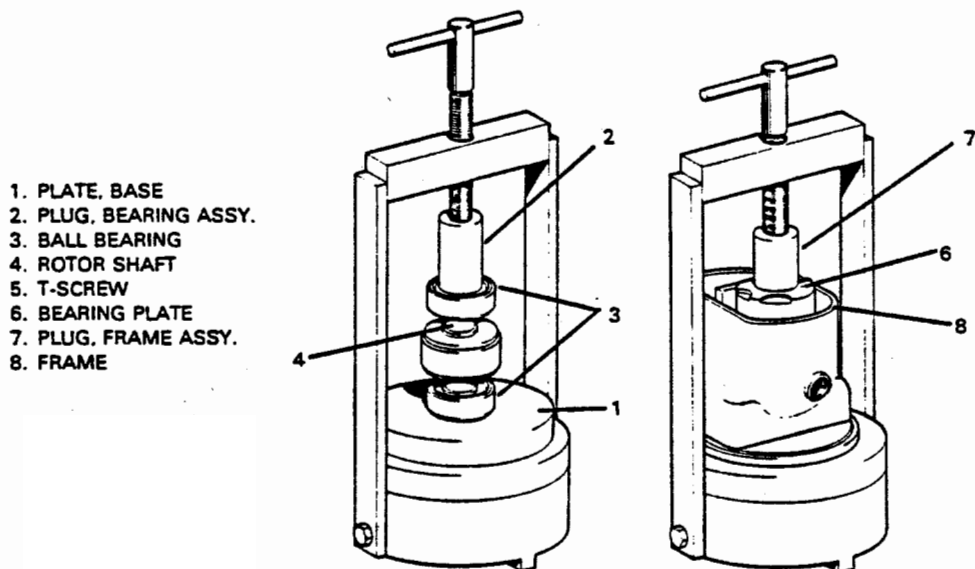

Figure 8-11. Installation of Bearings and Bearing Plate
- f. Insert the base plate (T-117) and the adapter plate bushing (T-119) into the base of the T-100 assembly and timing tool. Assemble both ball bearings on the rotor shaft, making sure the grease shield of each bearing is toward the magnet. Place the rotor shaft into the base plate, threaded end down. (See Figure 8-11.) Using bearing assembly plug (T-101), turn the T-screw down until both bearings are seated tightly against the shoulder on the rotor shaft. Remove the base plate (T-117) and adapter plate bushing (T-119).
- i. Using rotor and frame assembling plug (T-102), turn the T-screw down until the plate bottoms in the frame. (Refer to Figure 8-11.) Install bearing plate clamp on bearing plate and install screw and lockwasher. Torque to 20-24 in. lbs.